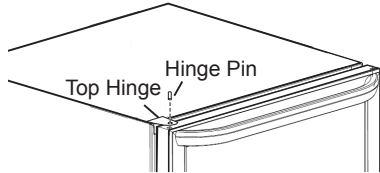

Figure 9
- Place bottom left hand corner of door onto lower hinge then tilt top of door back to clear edge of top hinge. Make sure door is level and it seals properly against cabinet then insert hinge pin through hole in top hinge and into door busing. Securely fasten with Phillips screwdriver.. (See Figure 9.)
- On top edge of door, transfer the button plugs and bushing to hole on opposite side. (See Figure 9.)